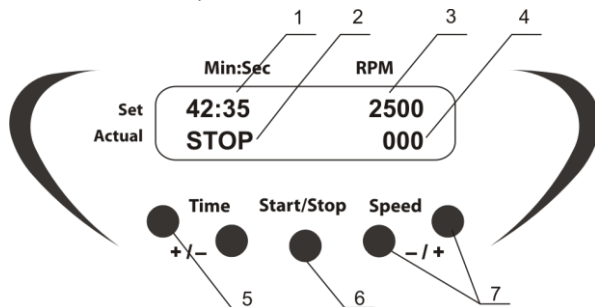

Figure 1. Control panel
- Use the **+** and **- Speed** keys (fig. 1/7) to set the required speed (increment - 100 rpm). Holding down the key for longer than 2 s increases value change speed. The set value is displayed in the upper line of the display (fig. 1/3).
- Use the **+** and **- Time** keys (fig. 1/5) to set the required working time interval in min & sec (increment - 1 min). Holding down the key for longer than 2 s increases value change speed. The set value is displayed in the upper line of the display (fig. 1/1).
- Press the **Start/Stop** key (fig. 1/6). The platform will start vortexing and the timer indicator will start counting the time interval in the lower line of the display - **Actual** (fig. 1/2).
- If the working time is not set (or is reset) and the display shows 00:00, pressing the **Start/Stop** key will cause the unit to operate continuously until the **Start/Stop** key is pressed. Actual value of the platform speed is displayed in the lower line of the display (fig. 1/4)
- After finishing of the program (after the set time elapses) the platform motion will stop and flashing reading "STOP" will appear in the lower line of the display accompanied by the repetitive sound signal until the **Start/Stop** (fig. 1/7) key is pressed.